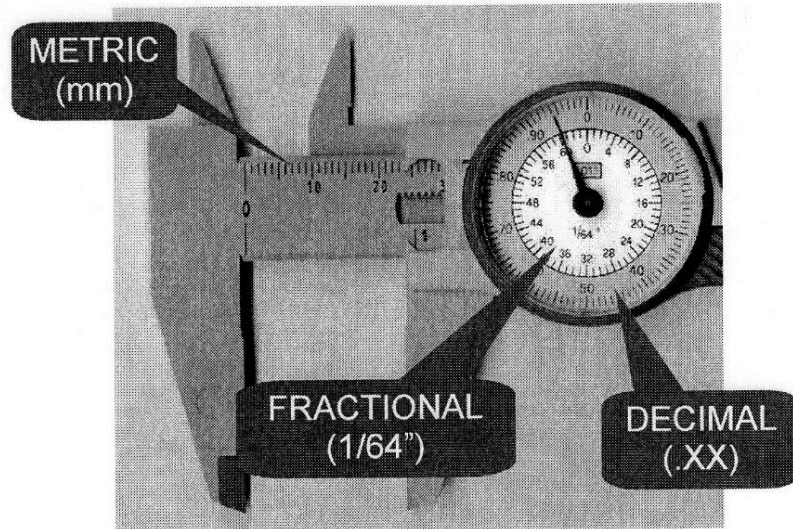

Figure 1. 6 Inch Dial Caliper
4. Caliper instrument will give the machinist four types of measurements; Step, Inside, Outside, and Depth. See Figure 1.